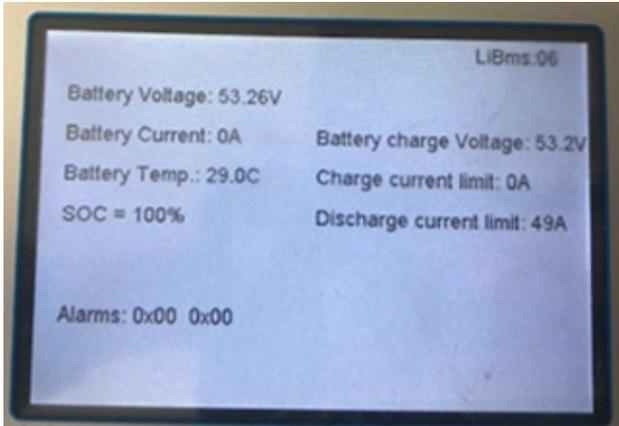

Figure 9: Li BMS Settings
- If a screen as seen in Figure 9 appears then BMS communication is correct.